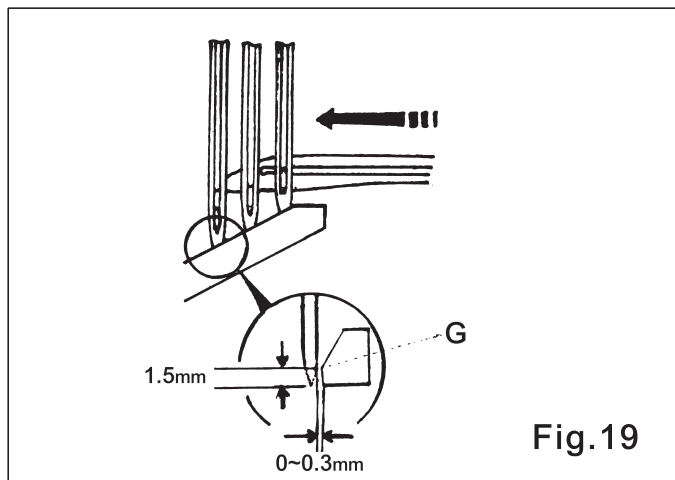

Fig.19
1. When the tip of Loper moves to the center of left needle, the distance of the tip of left needle pass the line (G) of Front Needle Guard is about 1.5mm. This is the height of Front Needle Guard. The clearance between the Front Needle Guard and right needle is about 0.3mm. (Fig.19)
1. When the tip of Looeper moves to the center of left needle, the distance of the tip of left needle pass the line (G) of Front Needle Guard is about 1.5mm. This is the height of Front Needle Guard. The clearance between the Front Needle Guard and right needle is about 0.3mm. (Fig.19)